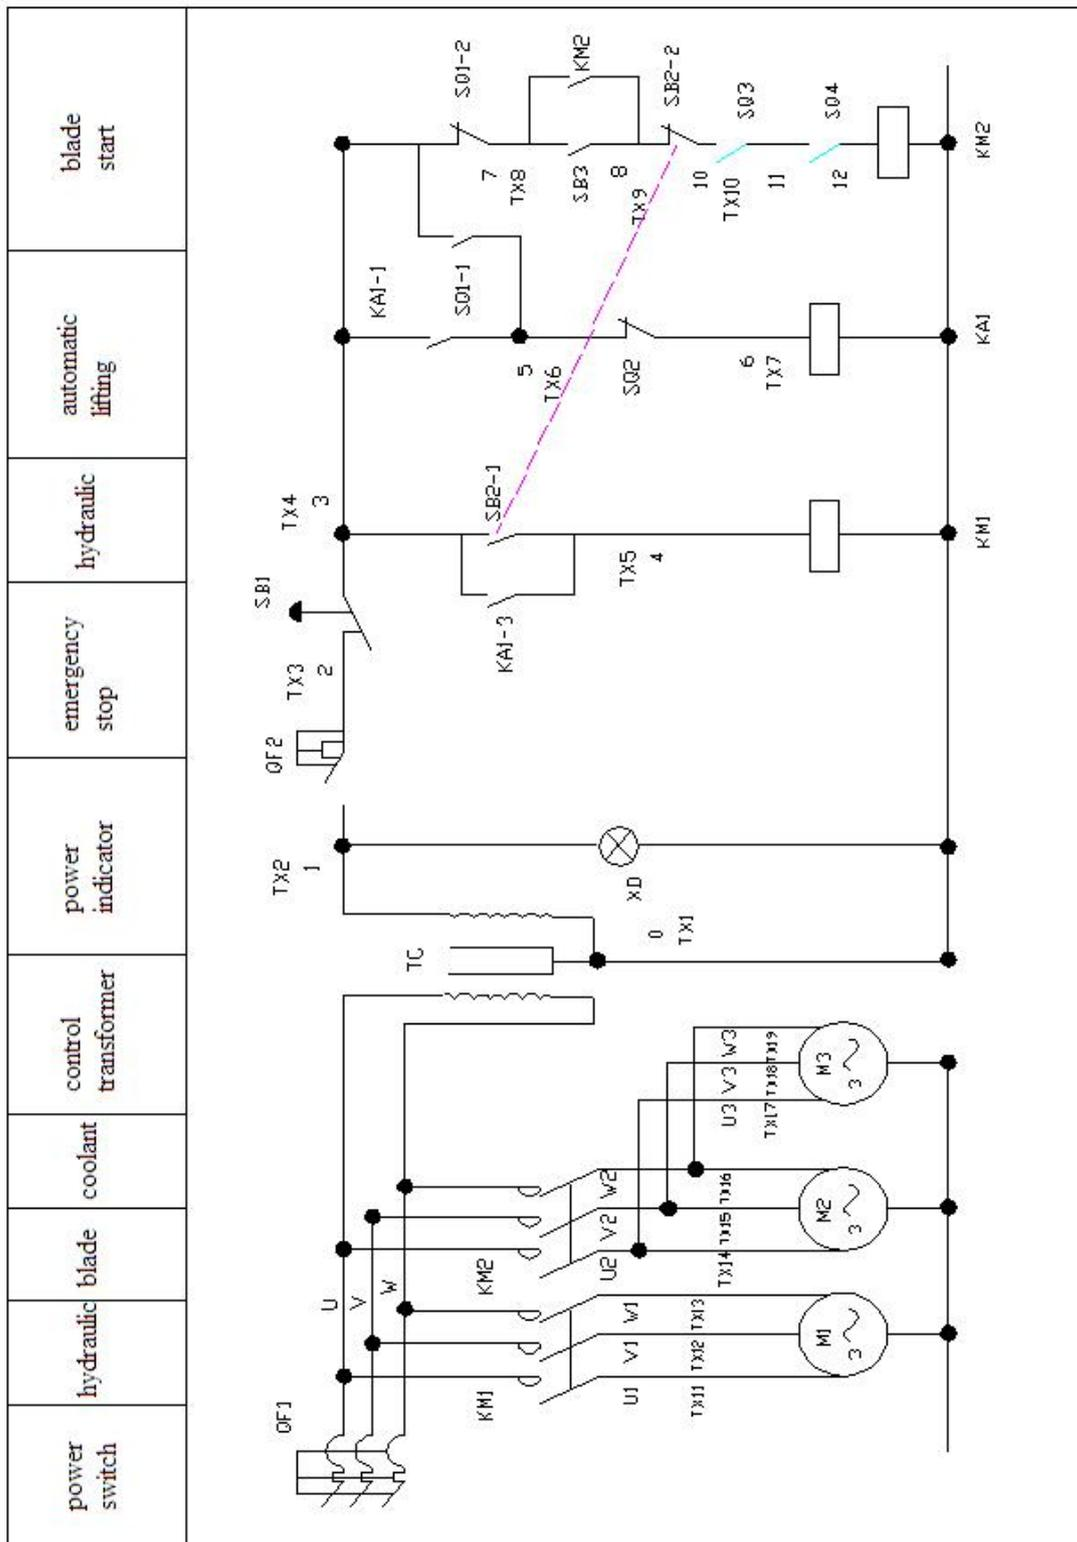

Figure 2
8. Electrical Principle Chart (See Figure 2)